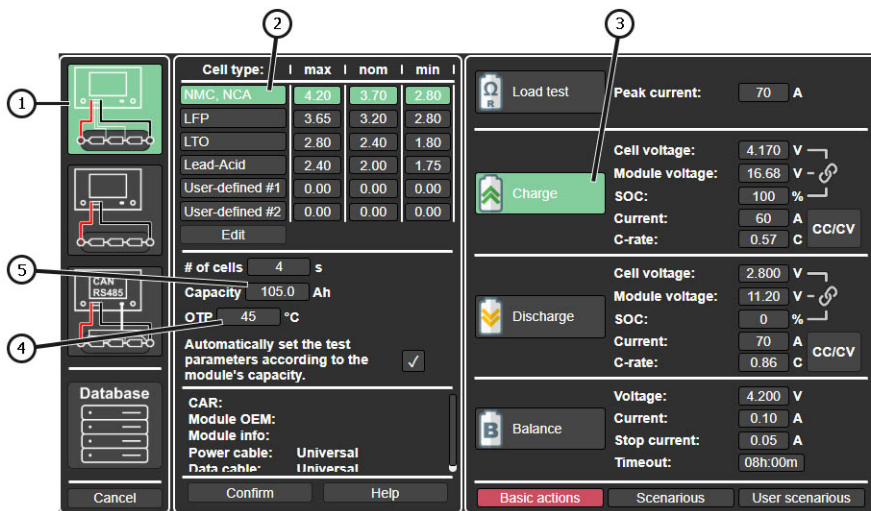

Figure 16
2. Go to the **Test Mode Selection and Parameter Setup Menu** by pressing the "Test setup" button. Configure the battery charging parameters as follows (the numbered items below correspond to positions in Figure 16):